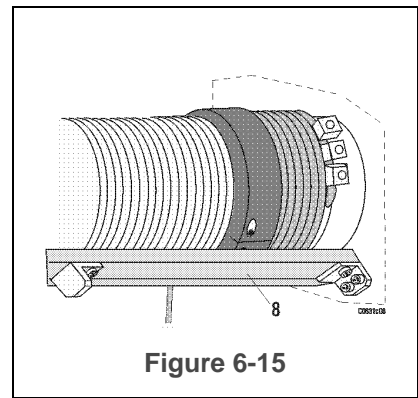

Figure 6-15
- Bolt on protective plate (8) (see Figure 6-15).